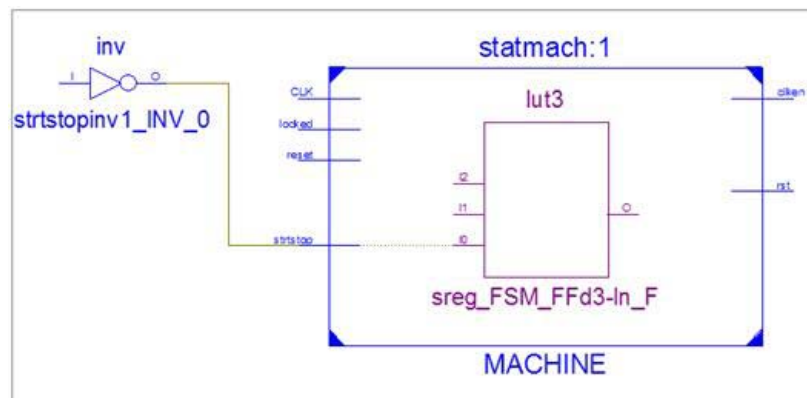

Figure 5-6: MACHINE Block
1. Double-click the internal and external **strstop** pin of the **MACHINE** block to get the following schematic (Figure 5-6).